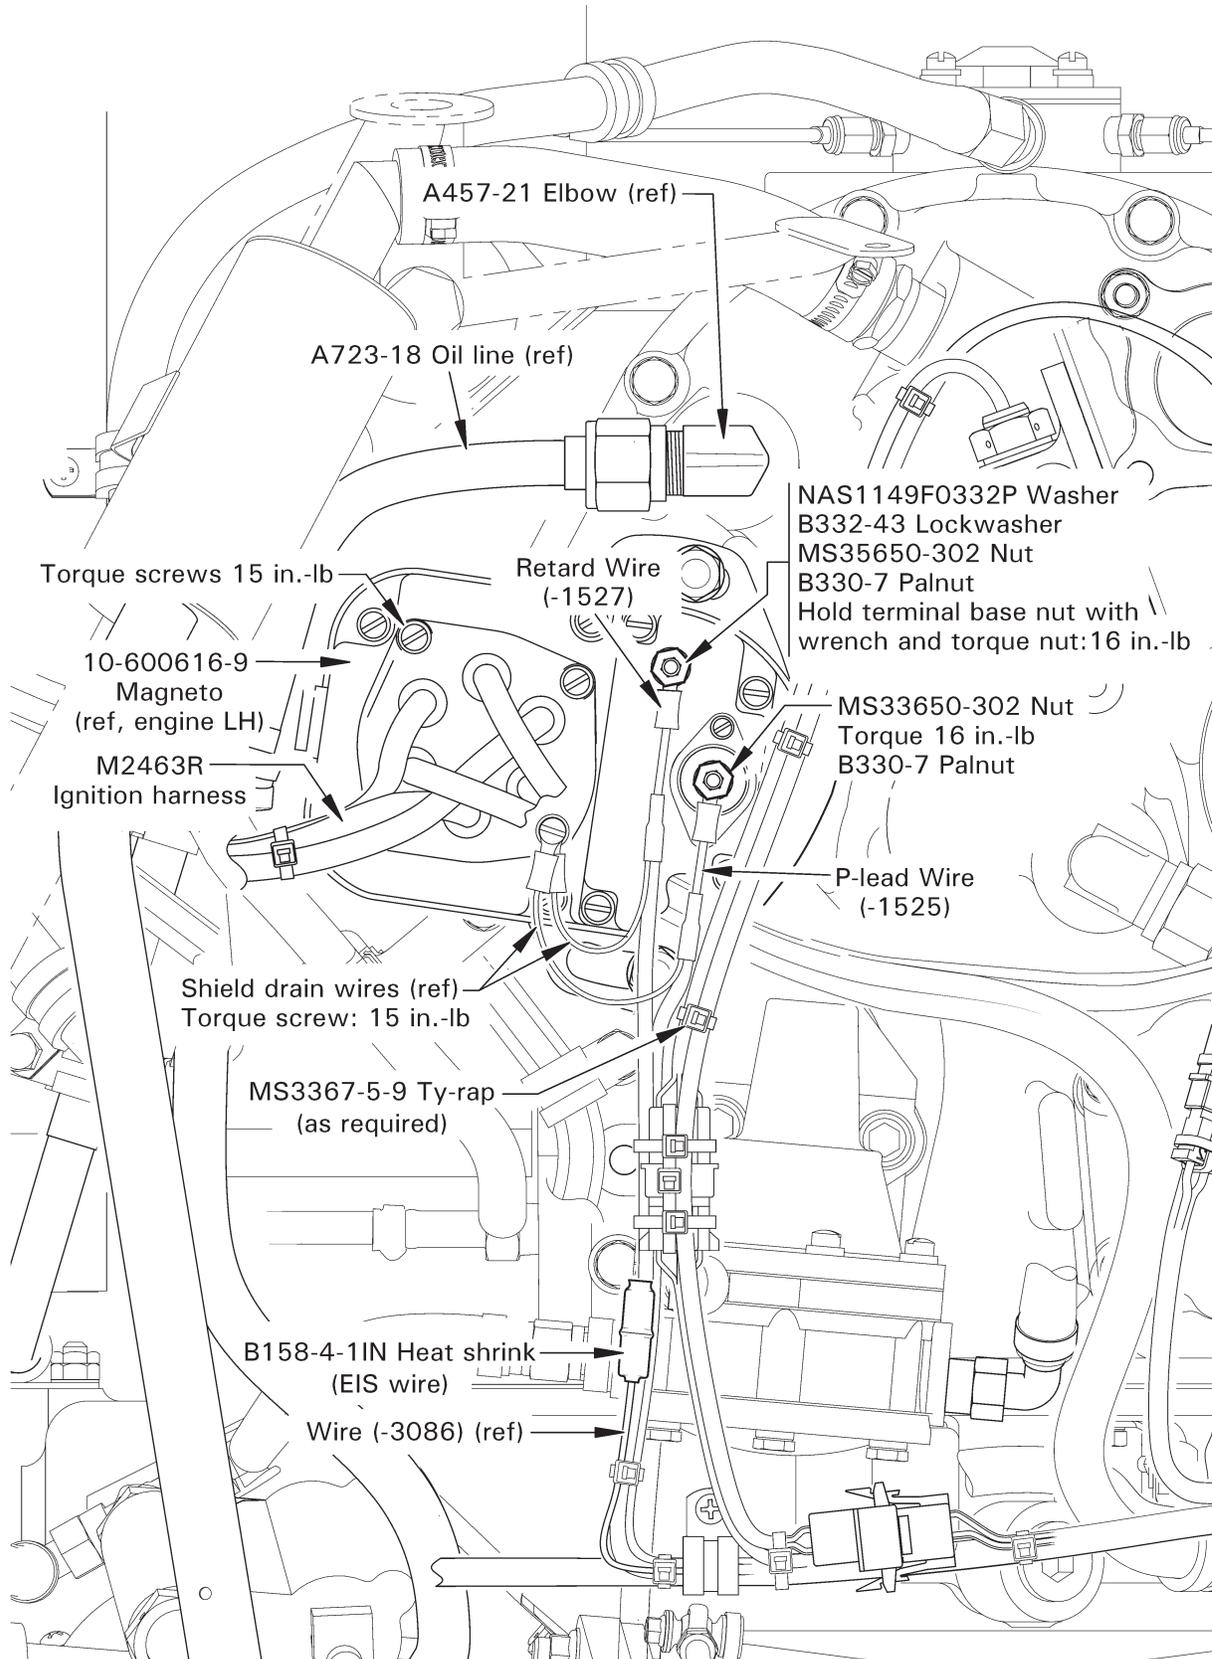

Figure 7 R44 II CMI magneto installation, engine LH shown
14. Refer to Lycoming Operators Manual section 5.1.b and perform steps (3) thru (20), using new 62224 gasket and retained hardware.
15. Refer to Figure 7. Install M2463R ignition harness using supplied screws. Route and connect ignition leads as marked on spark-plug nuts. Dress & secure harness per photos taken in step 9.